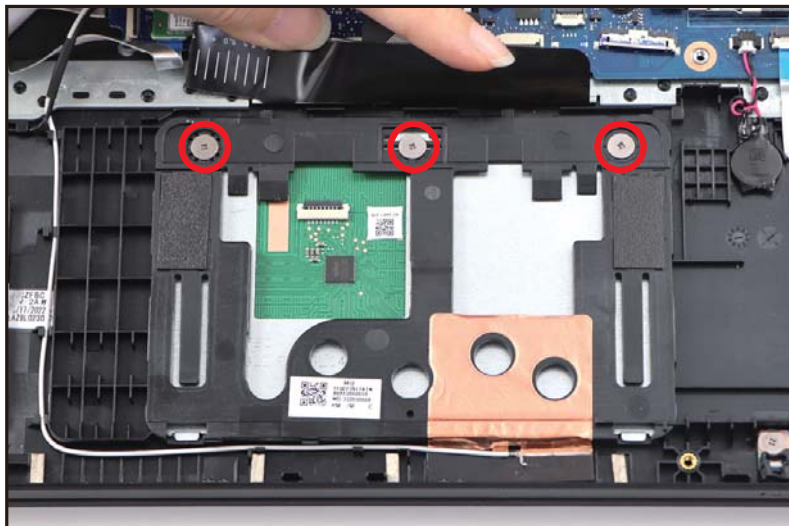

Figure 1-12. Touchpad Module Removal
4. Remove three (3) screws securing the touchpad module (Figure 1-12).